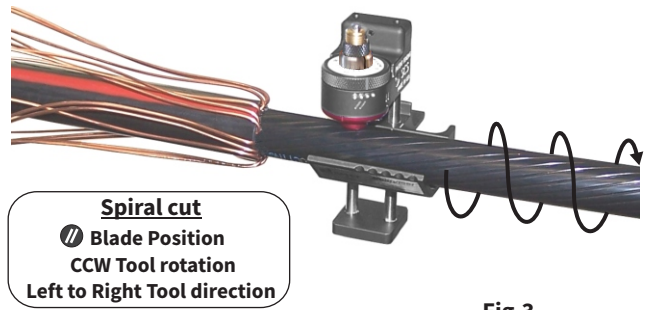

Fig.3
3. Spiral cut: (Fig.3) With the tool still in place on the cable, turn the blade positioning knob to one of the spiral cut locations. The ● symbols represent relative semi-con diameters, and assist in setting the best tool pitch for various cable sizes. The tool pitch is most aggressive at the smallest ●. Turn the tool counter clockwise and allow it to advance toward the end of the cable, and completely off the cable.